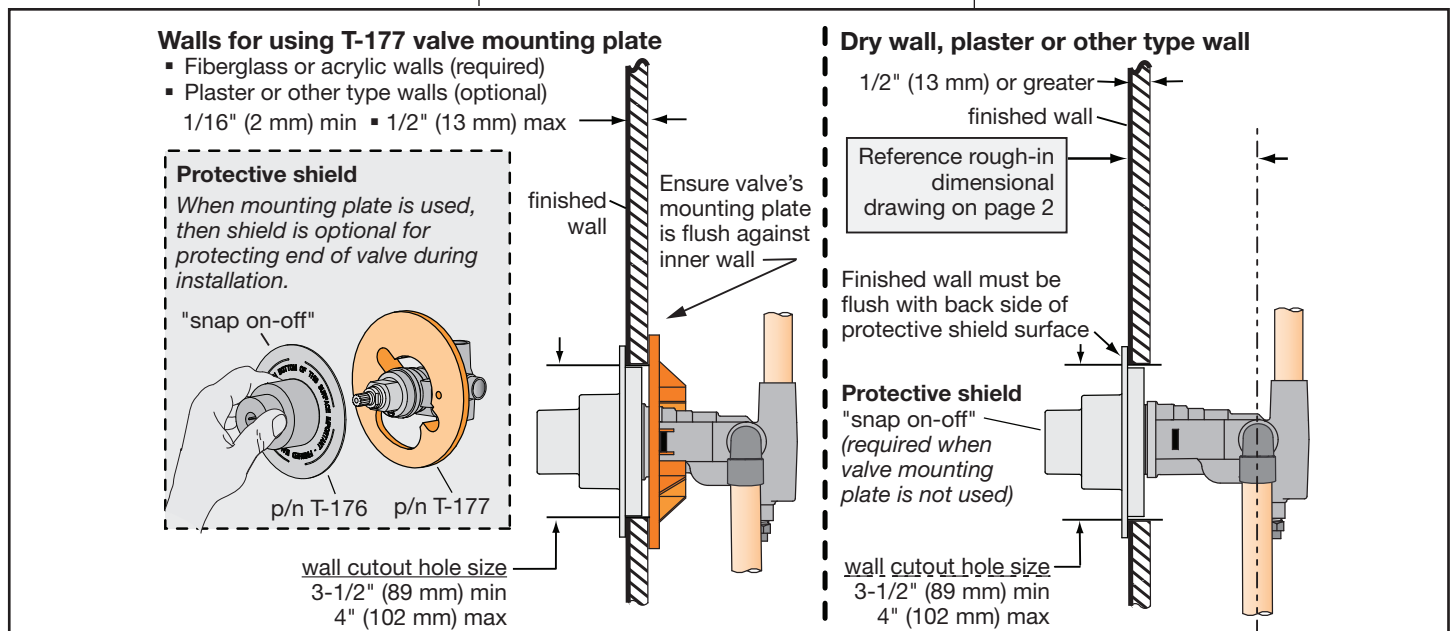

Figure 2 Mounting valve (valve without IPS ports shown)
- Consider whether to use mounting plate by reviewing figure 2 below.
- Reference figure 2 to determine whether shield is required.
Install valve through cutout hole in wall as specified in figure 2 below and dimension illustration on page 2.